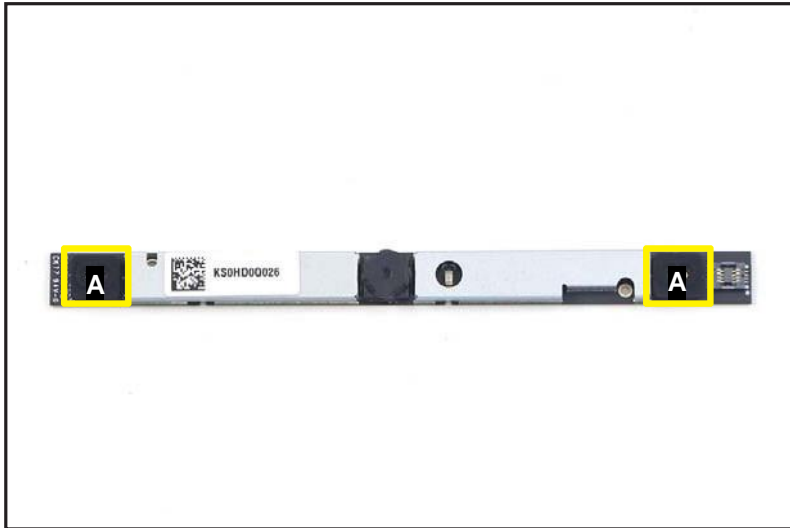

Figure 3-68. Replacing the Camera Module
1. Install the microphone rubbers (A) onto their respective slots on the camera module (Figure 3-68).